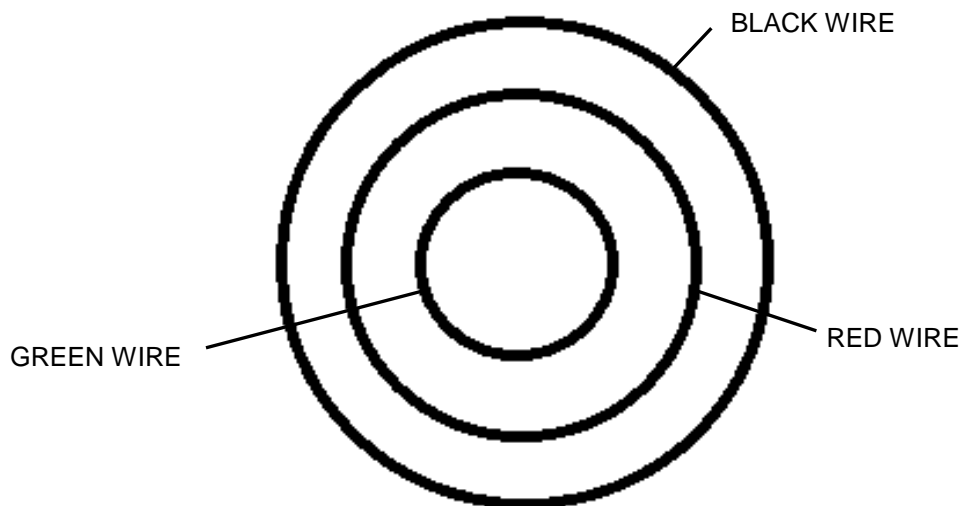

Figure 49: Airmaster propeller signal wire to slip-ring disc connection (vacuum pump fitted).
- Ensure that the electrical signal wire connections are secure and correct (i.e. a specific coloured wire on the propeller / propeller extension side connects to the correct slip-ring / terminal on the slip-ring disc (as marked upon removal, or refer to Figure 49).